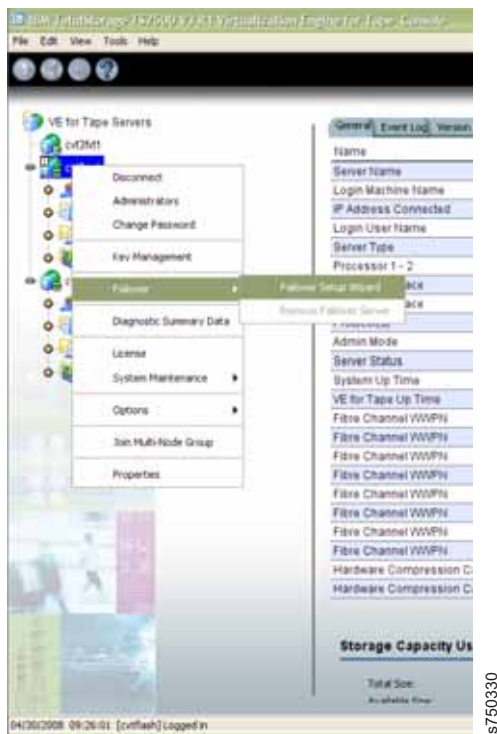

Figure 18. Starting the Failover Setup Wizard
3. __ Right-click the lower TS7530 Server icon and then click **Failover** > **Failover Setup Wizard**. Figure 18 shows this step for the lower server. The Failover Setup Wizard starts.